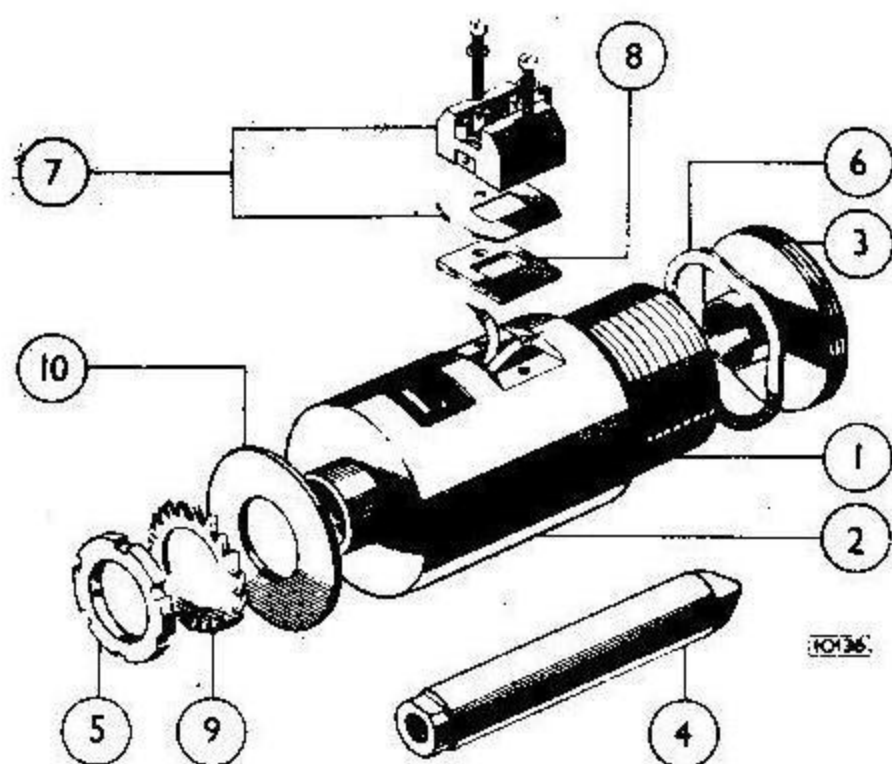

Fig. 4 Exploded view of the solenoid
Remove the solenoid fixing nut (5) Fig. 4 and withdraw the solenoid from the body platform.
Remove the internal connections to the terminal block (7) Fig.4; remove the two screws securing the terminal block to the body and lift off the block and support.